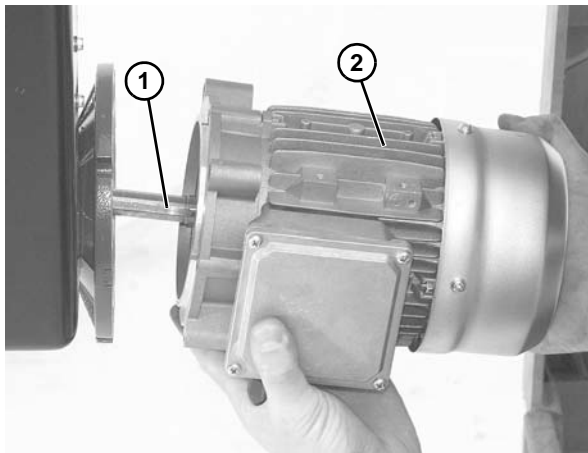

Figure 30
5. Apply anti-seize to motor shaft before assembling to gearbox. With key (**Figure 30, item 1**) in keyway, slide motor (**Figure 30, item 2**) and gear reducer together. Install screws and tighten.